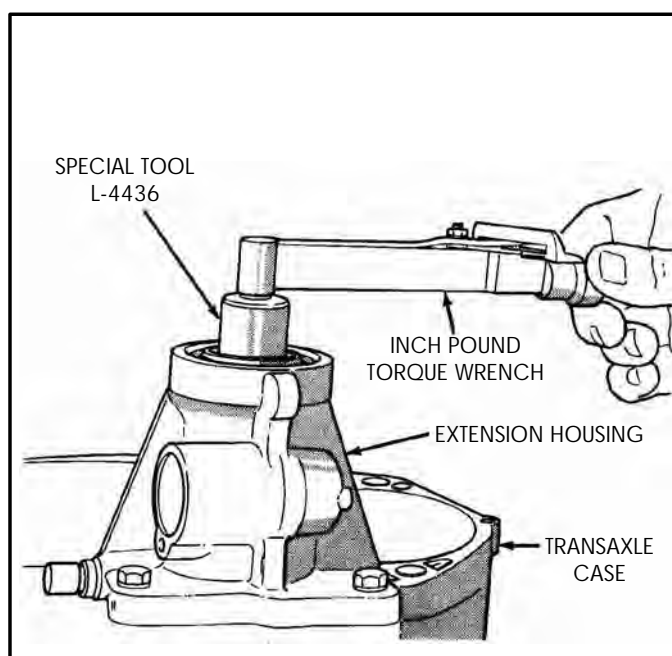

Figure 161
15. Install special tool L-4436, and using an inch pound torque wrench, as shown in Figure 161, verify that turning torque is between 5 and 18 inch pounds.